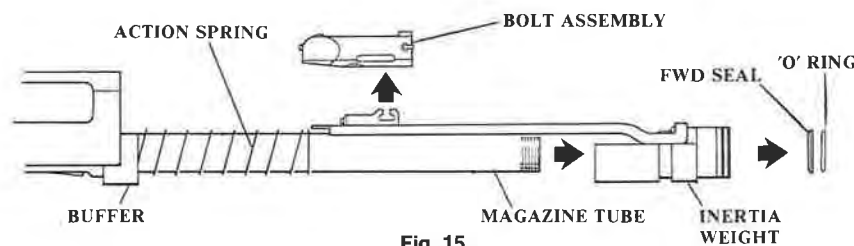

Fig. 15
Remove the O-Ring and the forward seal ring. The action spring is located ahead of the receiver and will normally push the mechanism toward the front of the receiver after the barrel has been removed. The operating handle will rest against the front edge of the ejection port. Push the action bar slightly rearward and while holding the mechanism, remove the operating handle by pulling straight out. Remove the inertia weight action bar and bolt assembly from the receiver and magazine tube (Fig. 15)
Remove the action spring and buffer simultaneously by grasping the buffer (Fig. 15) and sliding it forward and off the magazine tube. This method of removal will prevent stretching and distorting of the action spring.
**ACTION CLEANING** — Clean all components of the action (See Fig. 15) to remove accumulated residue. An evaporating solvent should be used. Action parts will remain cleaner longer if lubrication is used sparingly.